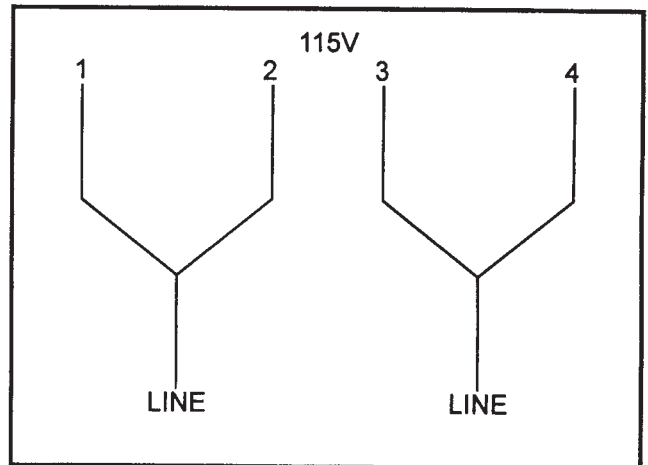
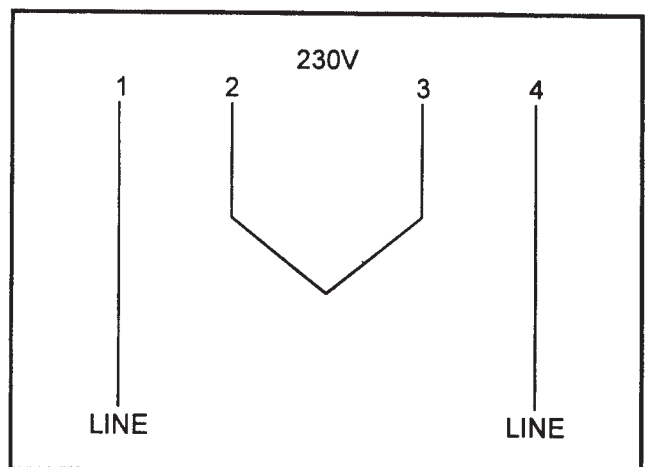

Fig. 3
Fig. 4
2. This tool is supplied with 4 motor leads that are connected for 115 Volts, as shown in Fig.3. Reconnect these six motor leads for 230 Volt operation, as shown in Fig.4.